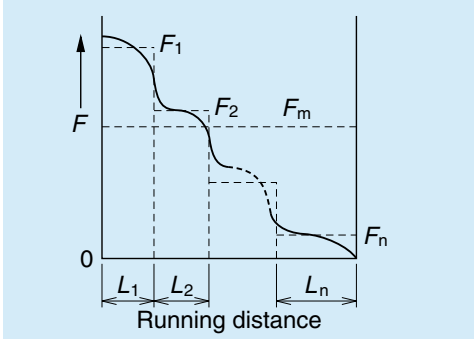

Fig. 2.3 Stepwise load change
**(1) When load and running distance vary stepwise (Fig. 2.3)**